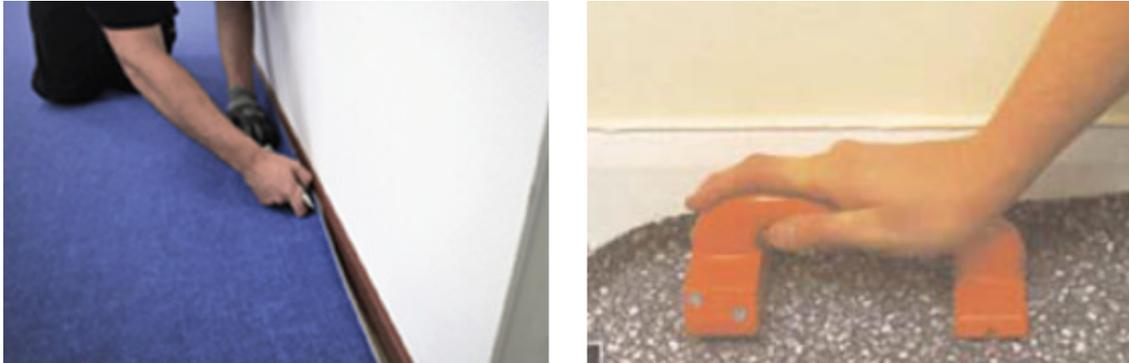

Fig 6.
- Trim off the excess floor covering along the walls and skirting boards. If necessary, roll or press the flooring into the adhesive after trimming. **Refer to Fig 6.**